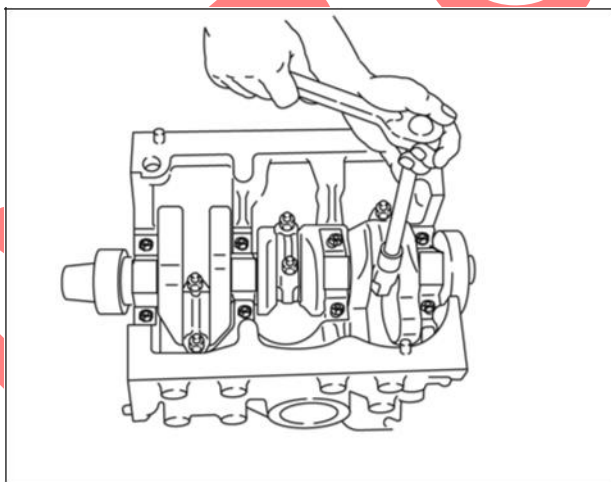

Figure 6
9. Remove connecting rod and piston assemblies (Figure 6).